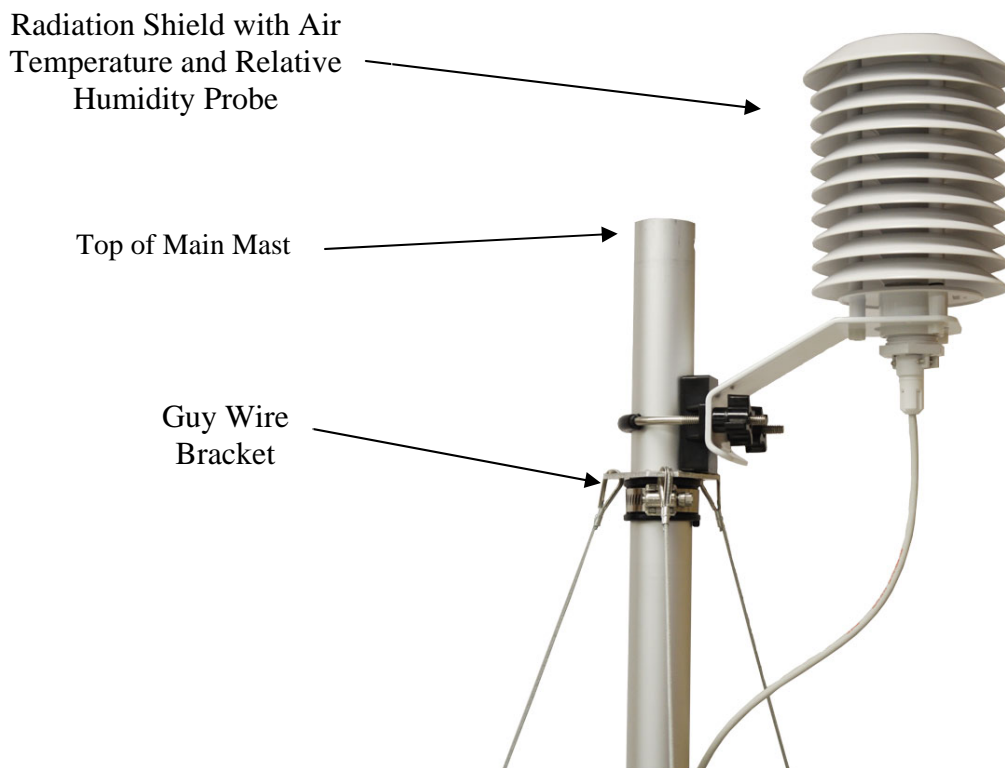

Figure 1. Radiation Shield & Guy Wire Assembly
Step 2 – If using the guy wire assembly, remove from the mesh bag and slide it over the top of the main mast. It will rest on the permanent black retaining ring near the top of the mast. Insert the loop at the free end of the guy wire over the hook of the tie down peg. Insert pegs into ground after completing **Step 6**. (See Figure 1)
Step 3 – Remove the Air Temperature/Relative Humidity sensor housed in the white, circular radiation shield. Slide it over the tripod mast and let it rest on the guy wire collar or guy wire-retaining ring (if the guy wire is not being used). Do not tighten at this time. (See Figure 1)